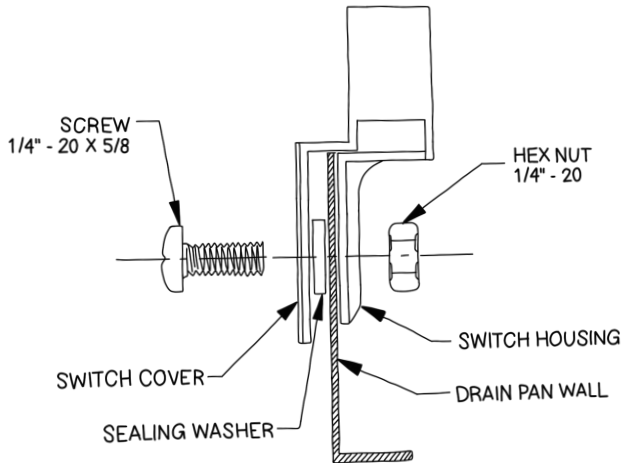
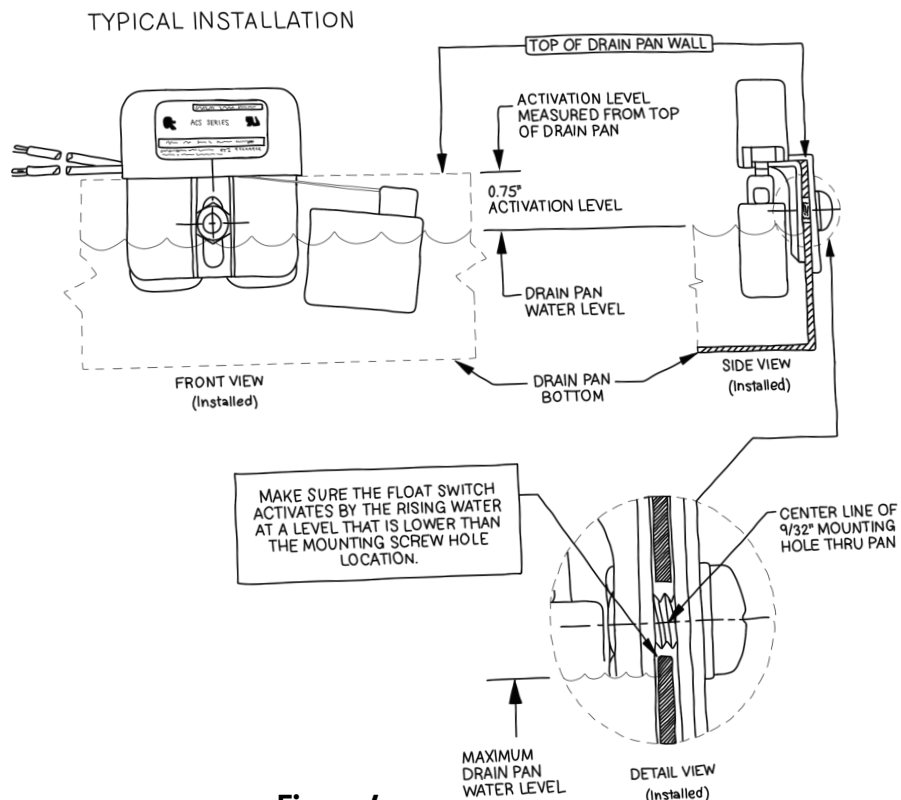

Figure 2
Figure 4
STEP 5: Plug the drain hole of the condensate drain pan. Temporarily position the ACS in the desired location without the screw, nut, or sealing washer so that the switch housing and switch cover are against the drain pan wall (refer to Fig. 2). Start filling the drain pan with water until the float lifts up and activates the switch. Make sure that the water level does not approach or overflow the drain pan. There will need to be a sufficient gap (usually 3/4") between the highest water level required to activate the switch and the top of the drain pan (see Fig. 4). Confirm the float can travel its full range with no obstructions.
STEP 7: Mount the ACS with the sealing washer located between the drain pan wall and the switch cover as shown in (Fig. 2).